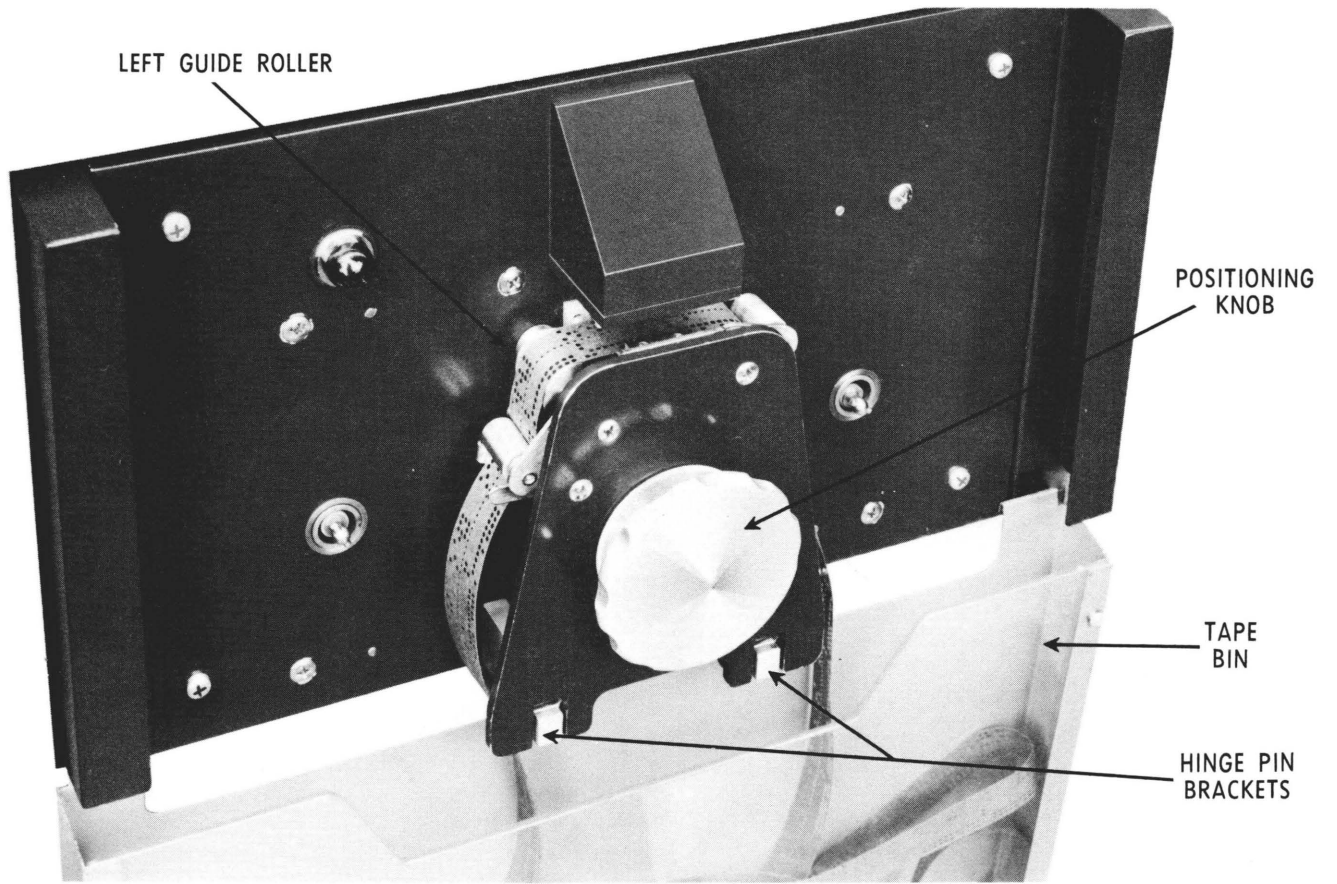

Figure 4-2. Loop Adapter.
4-6. Two types of assemblies are available to hold paper tape and to guide it over the read head; a loop adapter (figure 4-2) and a reel adapter (figure 4-3). The loop adapter is used if the paper tape is short enough to be held by the tape bin mounted below the Photoelectric Reader. The reel adapter is used for longer sections of paper tape, up to 3200 words.
1. Turn the knob counterclockwise (figure 4-2) and lower the loop adapter from the ready position.
3. When the tape is in position, turn the knob on the front of the adapter counterclockwise (figure 4-2) and lift the adapter forward over the tape.
1. Turn the knob on the loop adapter (figure 4-2) counterclockwise and lower the adapter from the ready position.